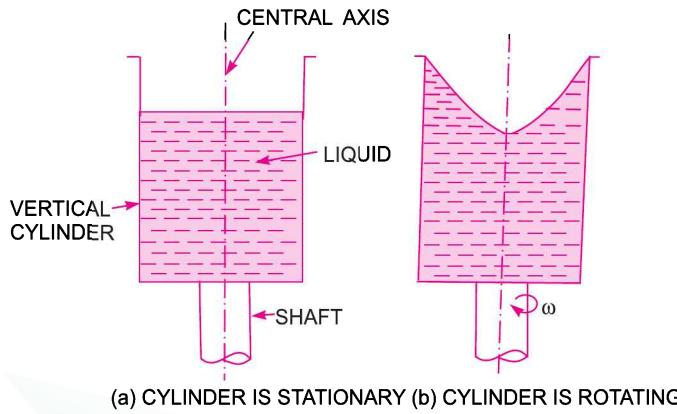

Fig. 5.12 *Forced vortex flow.*
1. A vertical cylinder containing liquid which is rotated about its central axis with a constant angular velocity  $\omega$ , as shown in Fig. 5.12.